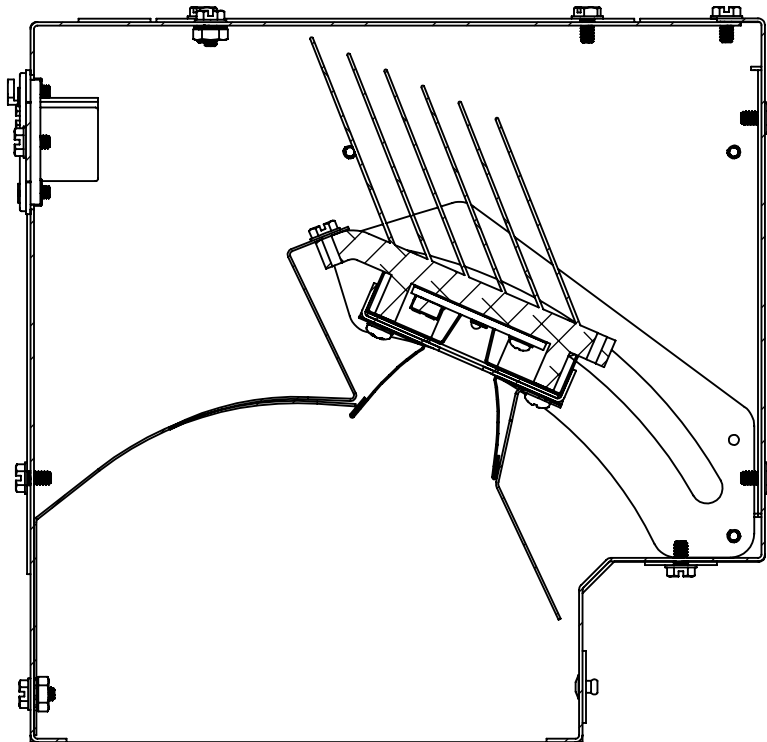

Figure 4
7. Aim the fixture video channel in compliance with the directions provided by Brightline or the specifier. The video channel will articulate between 25° to 50° from vertical. (Figure 4)